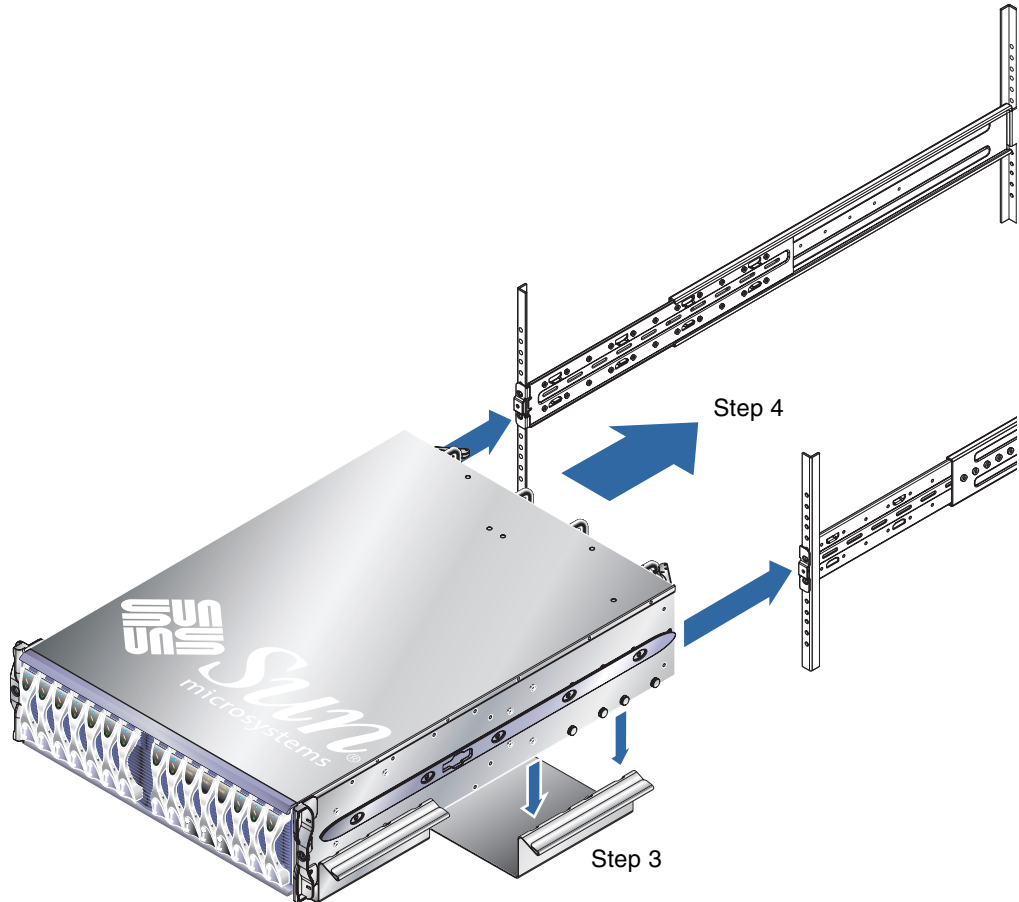

FIGURE 3-6 Aligning the System Chassis to the Brackets (19-Inch, Four-Post Rack)
3. Disengage the back sacrificial lifting handle (FIGURE 3-6).
5. Align the system chassis to the rack brackets (FIGURE 3-6).